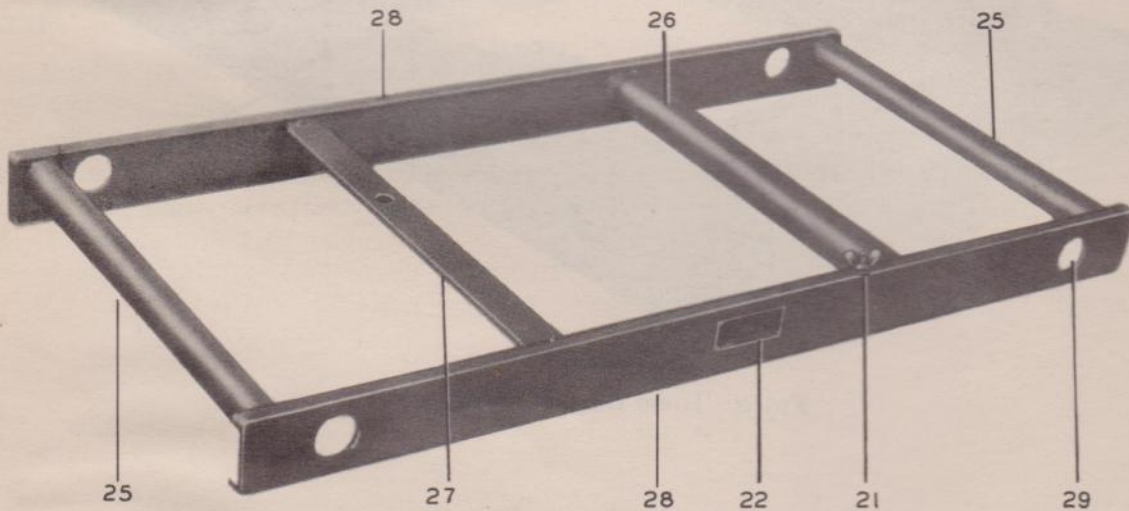

FIG. 4 SKID-BASE
(2) Select the proper open ended wrench from the tool bag in the hood compartment and loosen each of the four nuts until all the "J" bolts swing clear of the carrying handles (25). See Fig. 4.
(3) With one man at each end, lift the Power Unit PE-49-F by the carrying handles (25) only and move to the desired location. The power unit, without the hood and hood base, weighs 228 pounds.
(4) Make sure that the "J" bolt nuts do not fall off and become lost.
g. Keep the hood near the final location of the power unit. The hood must always be in place on the skid-base (20) when the power unit is to be transported any distance.